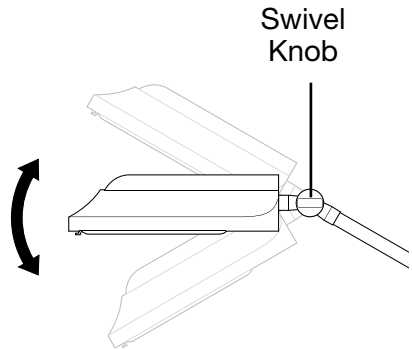

Fig. 6
2. To adjust lamp head angle up or down, loosen swivel knob counterclockwise and place head at desired angle, tighten swivel knob to secure (Fig. 6).